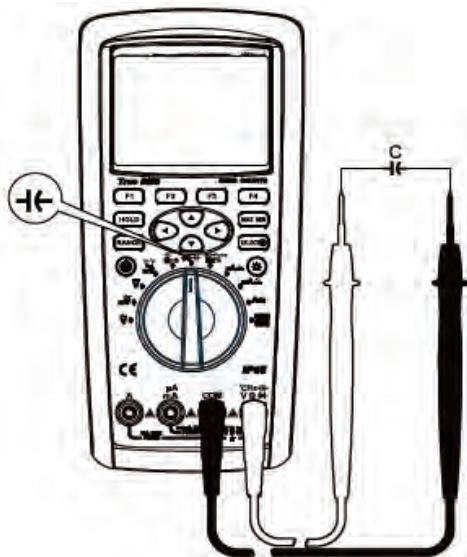

Figure 9
- 2) Set the rotary switch to the measurement  press the SELECT key to select Capacitance measurement. Connect the test leads to both ends of the measured capacitance as shown in Figure 9.